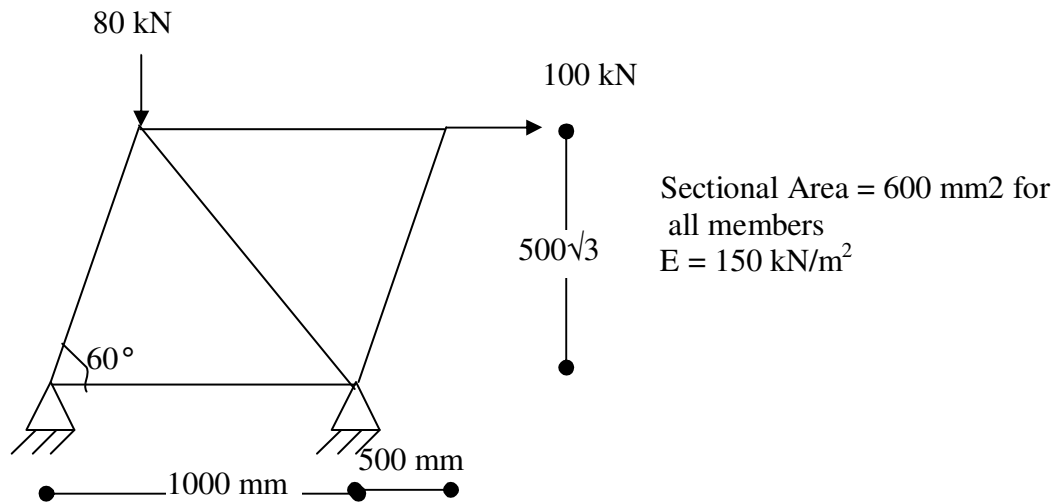

Fig. 3
Q. 6 Analyse by stiffness method and find member forces for plane truss shown in fig. 3
Q. 17 Analyze the plane frame shown in fig. 3 Take $E = 25.5 \times 10^6 \text{ kN/m}^2$